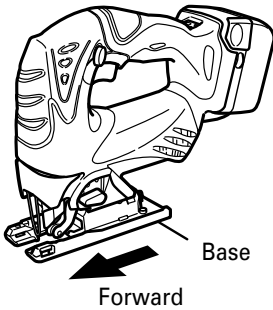

Fig. 17
- (2) Move the base fully forward (Fig. 17), and tighten the base bolt again.